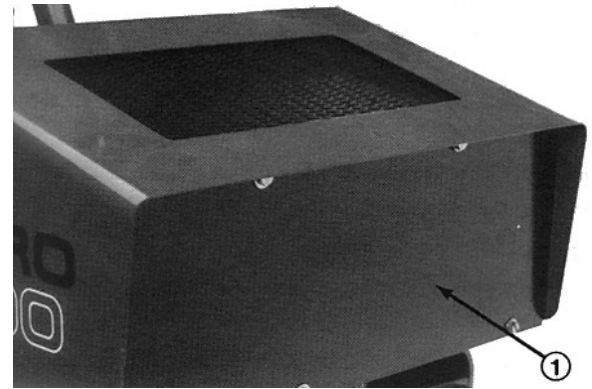

Figure 10
LUBRICATION (Fig. 10)
1. Remove the (5) screws securing the front panel to the frame (Fig. 10). Locate grease fitting through the opening in the frame.